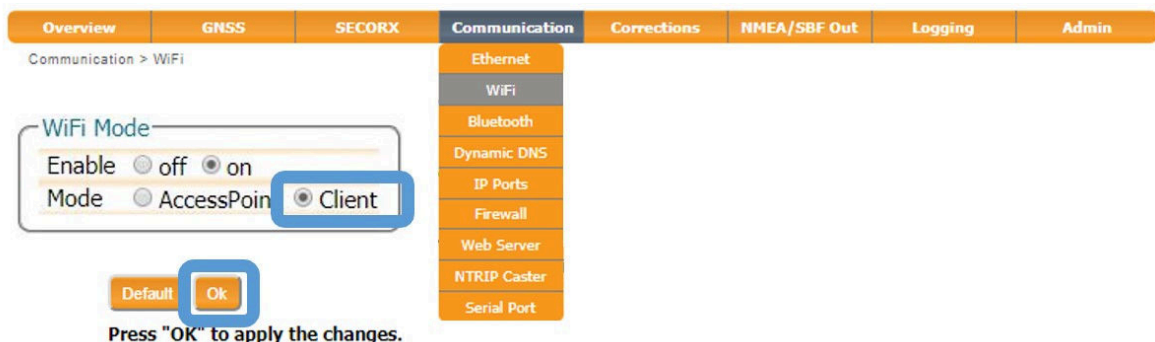

Figure 3-14: WiFi client mode of the Web Interface
2. On the **Communications/WiFi** window, enable the Client WiFi mode and click on **OK** as shown in Figure 3-14